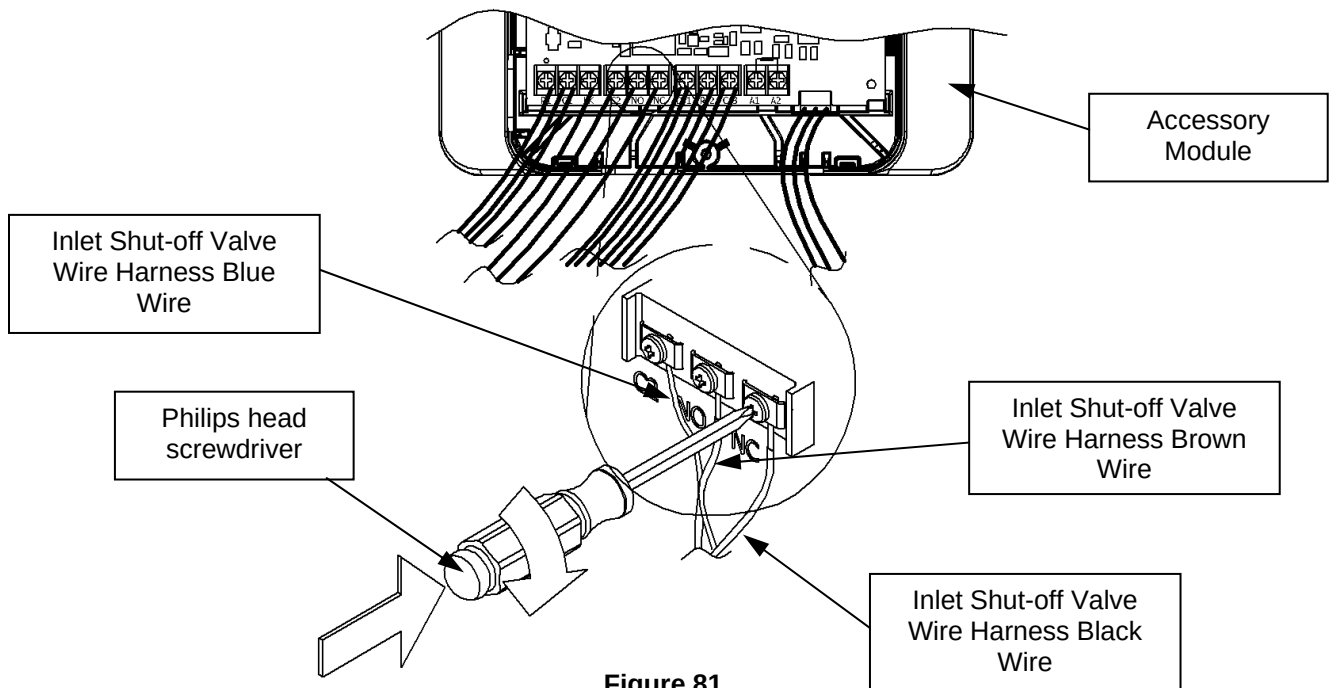

Figure 81
Step 14: Tighten the screw labeled “NC.” This is shown in Figure 81.